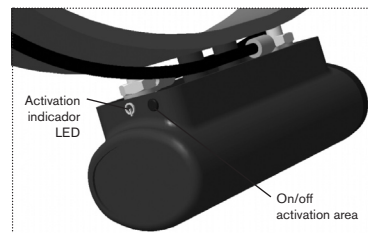

Fig. 2. On/off activation area
- > Keep a magnet in the ON/OFF activation area (see Fig. 2)